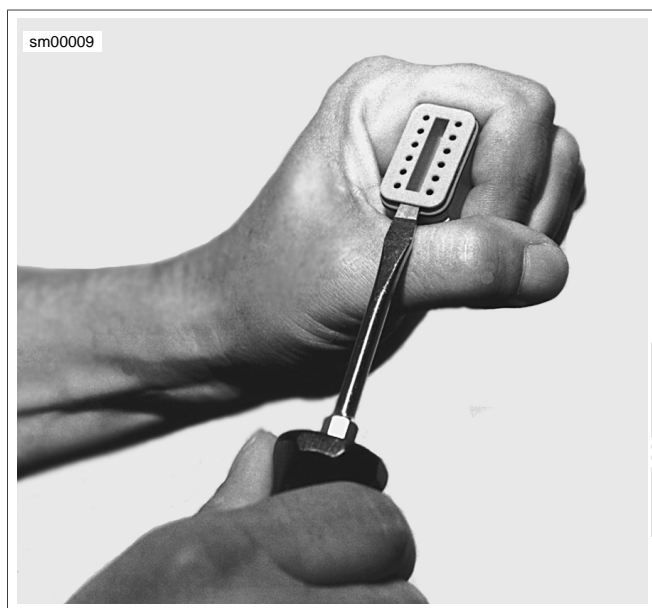

Figure A-11. Deutsch Connector: Remove Secondary Locking Wedge
- See Figure A-11. Insert a small screwdriver between the socket housing and locking wedge in-line with the groove (in-line with the pin holes if the groove is absent). Turn the screwdriver 90 degrees to pop the wedge up and remove the secondary locking wedge.